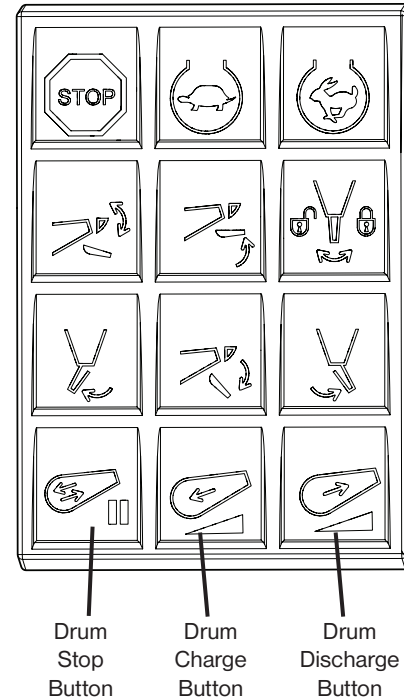

Figure 13
1. Make sure the drum Start/Stop button indicator is OFF on the rear pendant keypad by pressing the button to toggle the light on/off (Figure 13).
2. Press the appropriate button, either Charge or Discharge on the rear pendant keypad (Figure 13).